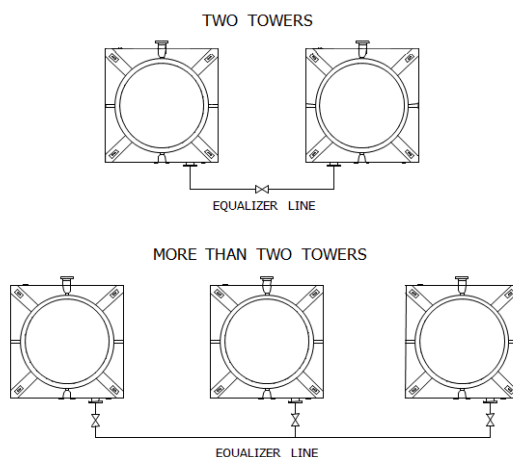

Figure A-42: Equalizer Line Installation
- Install an equalizer line between towers, to maintain the same water level at the basins (see Figure A-42). Table A-2 shows the recommended sizes for the Equalizer connections